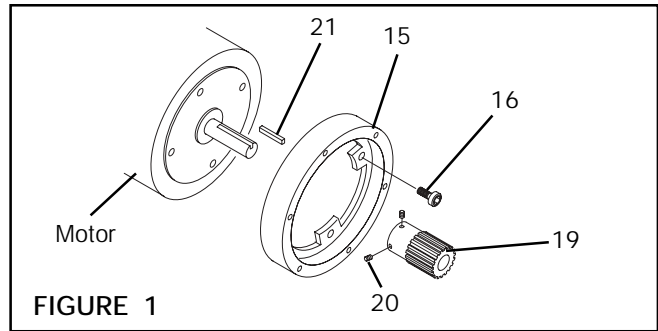

FIGURE 1
1. Using the Socket Head Cap Screws (Item 16), mount the Adapter Ring (Item 15) to the motor (See Figure 1).
3. Insert the Key (Item 21) into the motor shaft (See Figure 1).
4. Slide the Hub (Item 19) onto the motor shaft (See Figure 1).
5. Install and tighten the Set Screws (Item 20) (See Figure 1).